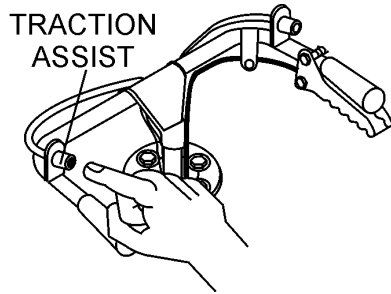

Figure 16. Traction Assist Switch
1. Press and hold the traction assist switch (Figure 16) on the left hand side of the handle bar to engage the traction assist system.